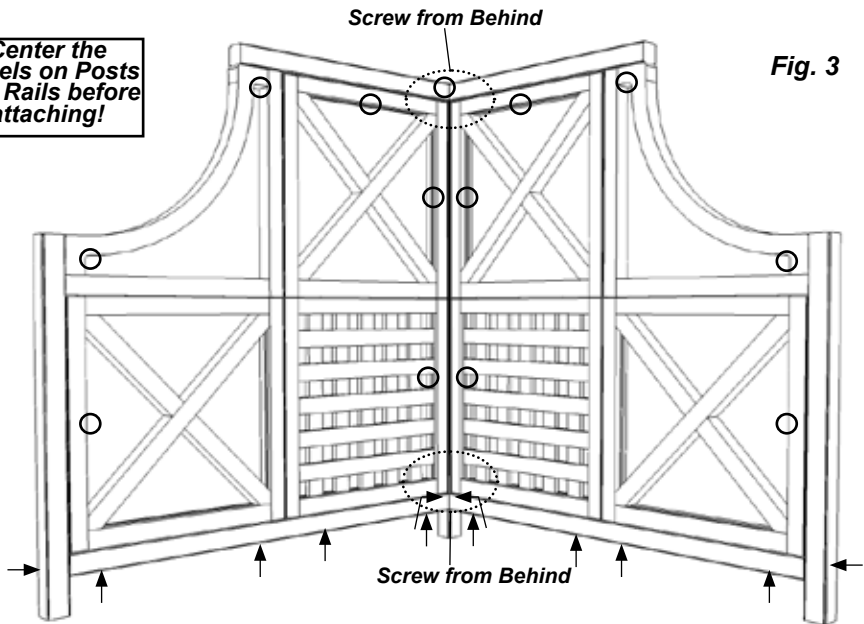

Fig. 3
4. Attach Post and Rails to panels with 2 1/4" screws in locations indicated by **circles** using pre-drilled holes where available. (Fig. 3) When pre-drilled holes are not available use a 1/8" Drill Bit to drill holes on an angle in the inside of the panel as shown. (Fig. F)
5. Using a 1/8" drill bit, pre-drill Post and Rails in locations indicated by the **arrows** and attach to side posts using 2 3/4" screws. (Fig. 3)